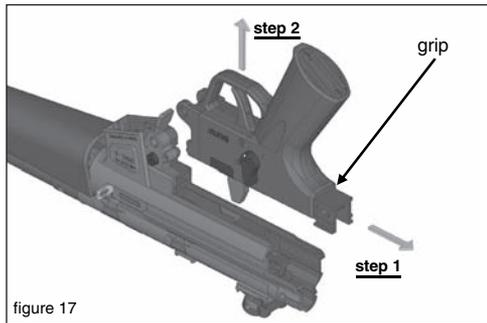

figure 17
7. Remove the grip in the succession 1 and 2 (first right then upwards) as shown in (*figure 17*)